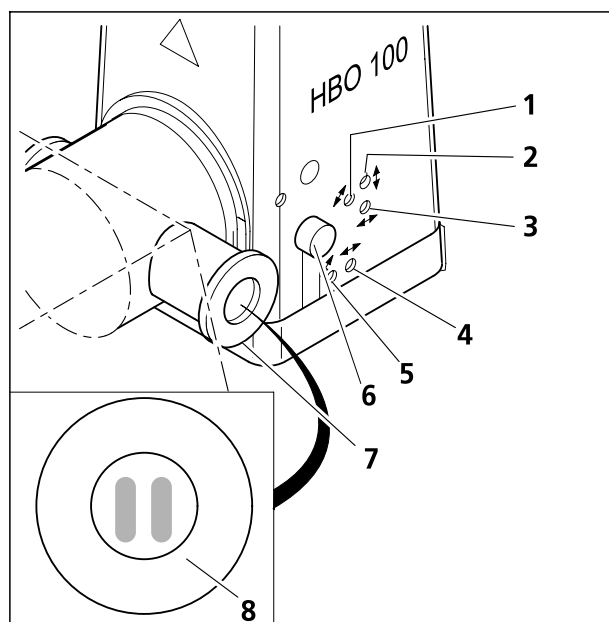

Fig. 2-17 Adjusting the HBO 103
- Attach the HBO 103 illuminator to the microscope stand as described in Section 2.1.12 (2).
- If required, set knurled knob (2-17/6) and adjusting screw (2-17/4) alternately until both focal spots have the same dimension or size (refer to Fig. 2-17/8).